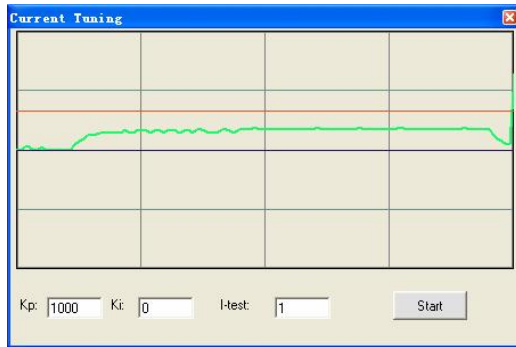

Figure 6-22: Current loop tuning with with $K_p=1000$, $K_i=0$
Step 3: Increase **Kp** to 1000 and click **Start**. The gap between target value and actual value is smaller but a higher **Kp** is needed. See figure 6-22.